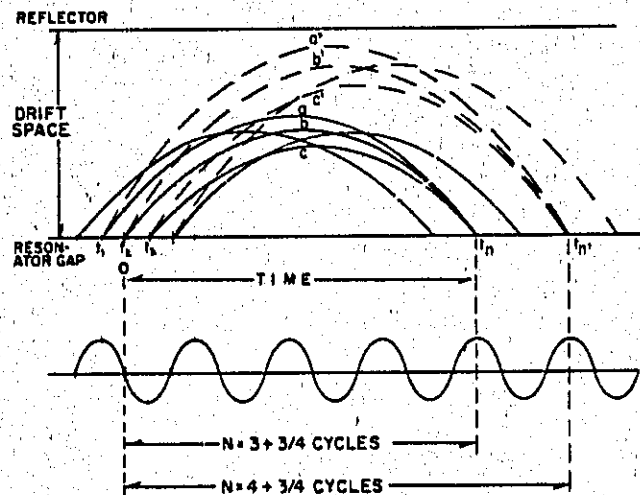
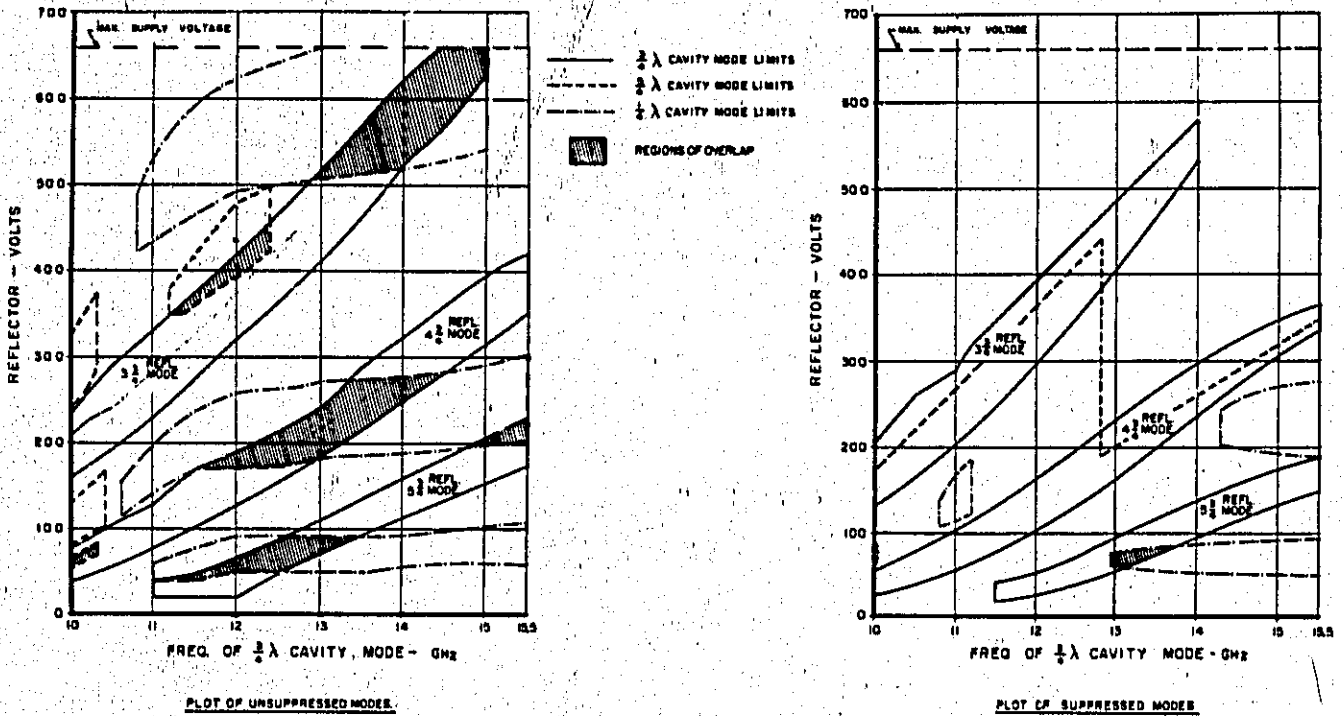

Figure 4-12. Bunching of Electrons in a Reflex Klystron
Figure 4-14. Graph Showing Klystron Oscillation Modes
4-42. This bunching of electrons is illustrated in Figure 4-12, which shows the transit time relationship of electrons while in the drift space between the resonator grids and the reflector. Consider an electron (a) leaving the grids at time t_1 . The voltage of the RF signal on the grids is such that the electron receives energy and is accelerated into the drift space. It arrives back at the grids at time t_n . An electron (b) leaving at time t_2 receives no acceleration because the RF signal is now at zero volts. Thus electron (b) does not travel as far into the drift space and arrives back at the grids at the same time as electron (a). Electron (c) leaving at time t_3 is decelerated since the RF signal has reversed voltage polarity since time t_1 . Electron (c) travels a shorter distance into the drift space and arrives back at the grids at the same time as electrons (a) and (b).
4-44. The time that the electrons spend in the drift space is adjusted by changing the reflector voltage. As reflector voltage is increased in the negative direction, electrons a, b, and c spend less time in the drift space. As reflector voltage is decreased electrons a^1 , b^1 , and c^1 (Figure 4-12) travel farther into the drift space and take a longer time (t_n^1) to return to the grids. At the low end of the frequency band (10.0 to 12.8 GHz.), the reflector voltage is adjusted so that the number of oscillations (N) that occur at the grid while the electrons are in the drift space is equal to 3-3/4 cycles. At the high end of the frequency band (12.8 to 15.5 GHz.), the reflector voltage is adjusted so that the number of oscillations equals 4-3/4 cycles. When the oscillator is operating with 3-3/4 cycles drift time it is known as operating in the 3-3/4 reflector mode. A plot of reflector modes with respect to frequency and reflector voltage is given in Figure 4-14.
4-48. As shown in the plot of modes, Figure 4-14, the 5/4 wavelength cavity mode interferes with the 3-3/4 reflector mode at the lower end of the band. This mode is suppressed by means of two tapered loads adjoining the cavity, parallel to the plunger, and by an adjustable load in the klystron cavity. The mode suppressors are shown in Figure 5-13. Since klystrons possess a natural tendency to oscillate on the 1/4 wavelength cavity mode, and since this mode is undesirable, it is suppressed by the use of a small cylindrical load coupled to the cavity; a small screw matches the cavity to this load. The matching screw is effectively shorted out of the circuit at approximately 11 GHz and below by a shorting switch actuated by a cam on the frequency-drive shaft (Figure 5-13).